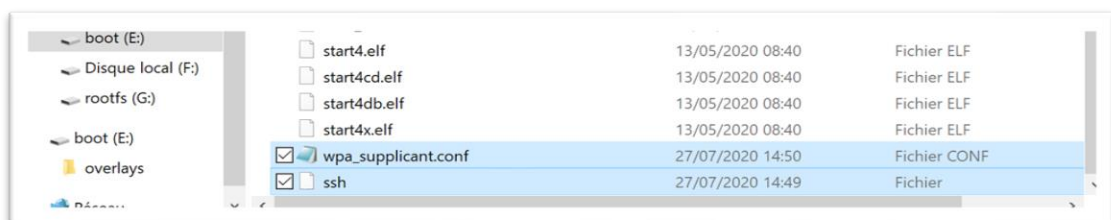

Figure 8. The ssh and wpa_supplicant files copied on the SD card
- Open Notepad again to create a new empty text file in the boot partition of the SD card. This file must be saved without extension: go to **Save as**, name it “**ssh**”, with the “”, and in **Save as type**, choose **All Files (*.*)**. This operation will enable SSH protocol on your PICT (Fig. 8).